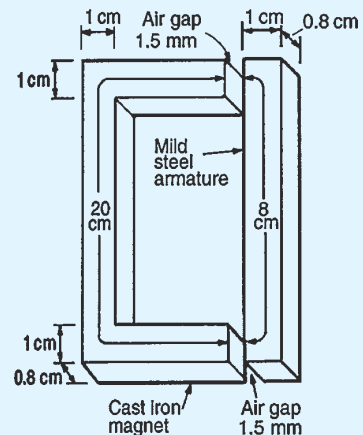

Figure 7.8
6. Figure 7.8 shows the magnetic circuit of a relay. When each of the air gaps are 1.5 mm wide find the m.m.f. required to produce a flux density of 0.75 T in the air gaps. Use the B–H curves shown on page 74. [2970 A]